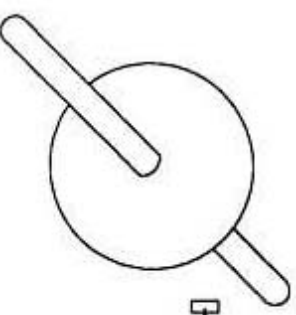

FIGURE 10
21. Prepare the 0.01 μ F capacitor, 10 Kohm resistor, and 4.7 Kohm resistor for installation. Place the parts on the board to size and cut the leads. Once the parts are prepared, solder them to the board. Figure 10.
22. Locate R105. If the component is 47 Kohm, change it to a 4.7 Kohm chip resistor. The component's value can be determined by the numbers written on the case. If the device is labeled 473, it is a 47 Kohm resistor and needs to be replaced. If the device is labeled 472, it is a 4.7 Kohm resistor and does not need to be replaced. Figure 10.